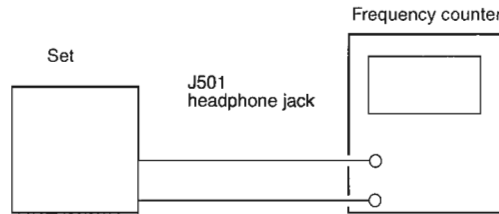

Fig. 8
**Adjustment of tape speed (See Fig. 8)**